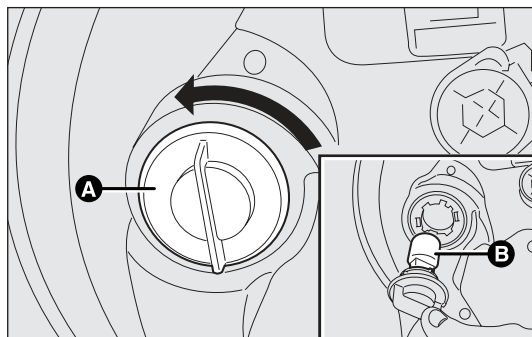

fig. 161
- ☐ turn the bulb holder A-fig. 161 anti-clockwise using the tab and pull it out;